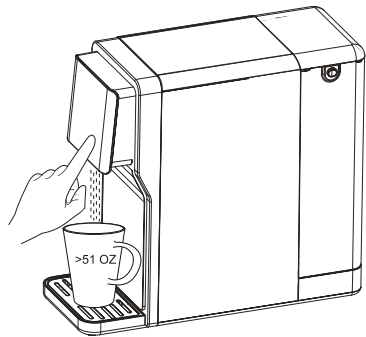

Figure 1.6
**Step 7:** After the filtration countdown is over, the machine enters the manual flushing mode and the "Flush" indicator light will flash. After the "Pump" indicator light goes out, put a container (>51 oz) below the spout and press the "Start / Off" button to dispense water until the "Flush" indicator light goes out. [Figure 1.6]